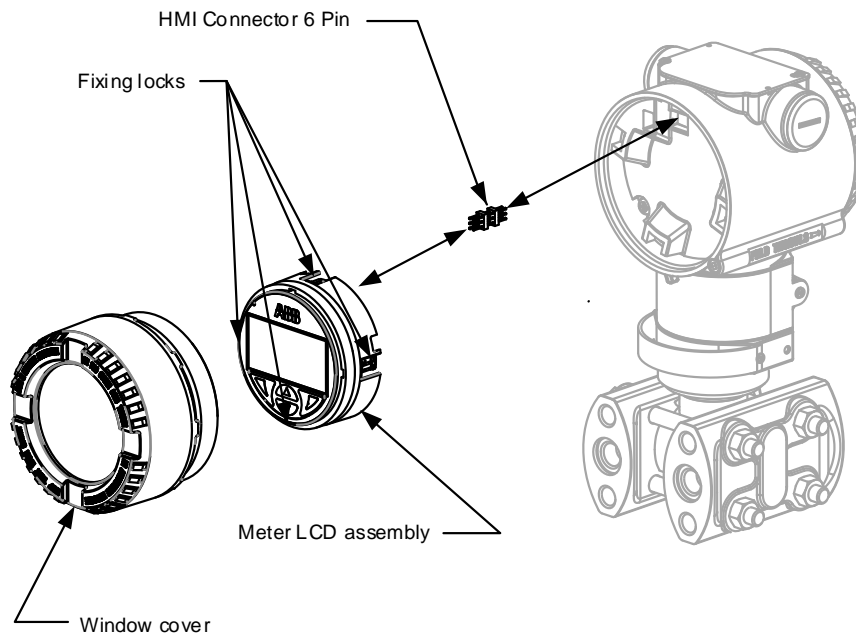

Figure 37: Transmitter disassembly
3. Use a slotted screwdriver to press the tabs on the LCD fixing locks to release the assembly and remove it (Figure 37).
4. Locate the damaged HMI connector and remove (Figure 37, page 48). If necessary, use a small pair of needle-nose pliers to remove.
4. Use a slotted screwdriver to press the tabs on the LCD fixing locks to release the assembly then remove it (Figure 37, page 48).